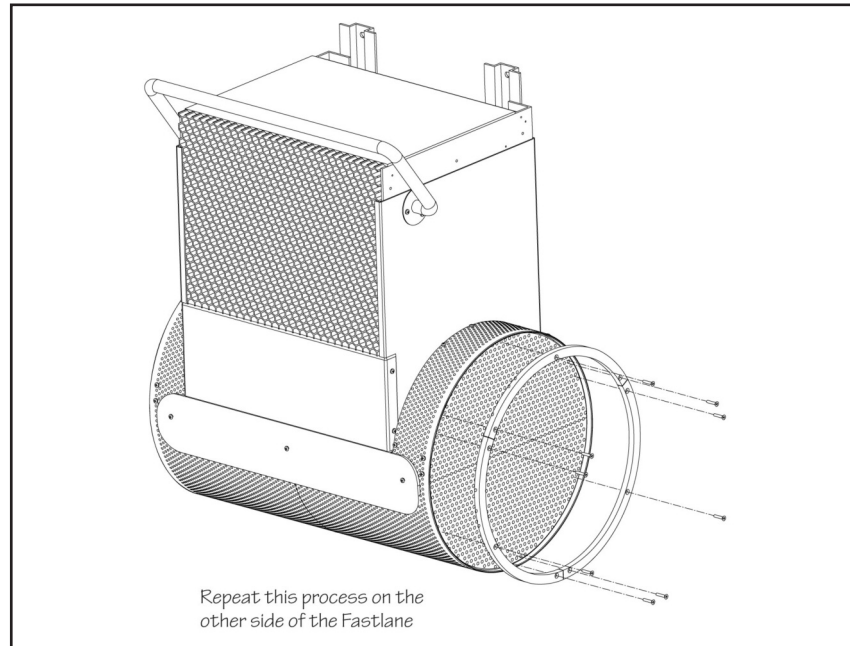

Fig. 6.11
- 6.13 Re-install the circular end caps. Make sure that the “smooth” surface of the end caps are facing out. Align the end caps to the internal PVC supports so that the holes in the internal supports are aligned with holes in the end caps. Position the arced cover strips over the end caps, making sure to align the hole in the arced cover strips with the holes in the stainless end caps and the internal PVC supports. Install the nine screws (3 per cover strip) that were removed in step 6.2. Repeat for the remaining end cap (Fig 6.11).